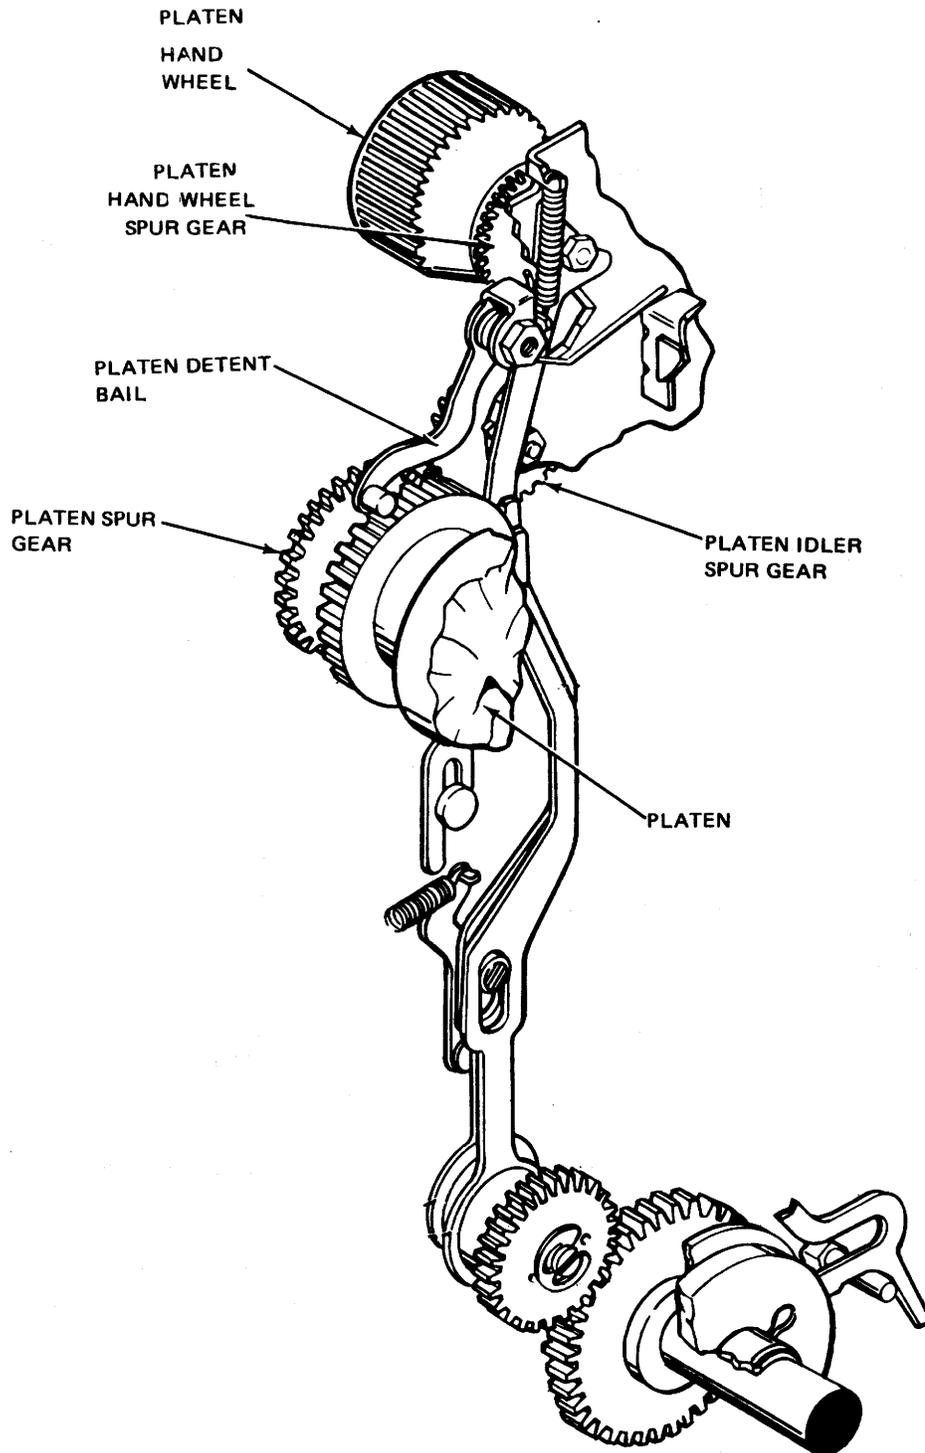

Figure 6-53. Left Platen Mechanism.
6-53. Keyboard Platen and Pressure Roller Removal and Replacement. To replace the keyboard platen and pressure roller, see figures 6-53 and 6-54, and proceed as follows:
- a. Remove detent bail assembly located near upper-left section of platen assembly (see figure 6-53).
o. Install new platen assembly, using reverse procedures in steps 5 a. through 5 l.. Ensure line feed bars properly engage line feed spur gear at end of platen shaft (see figure 6-53).